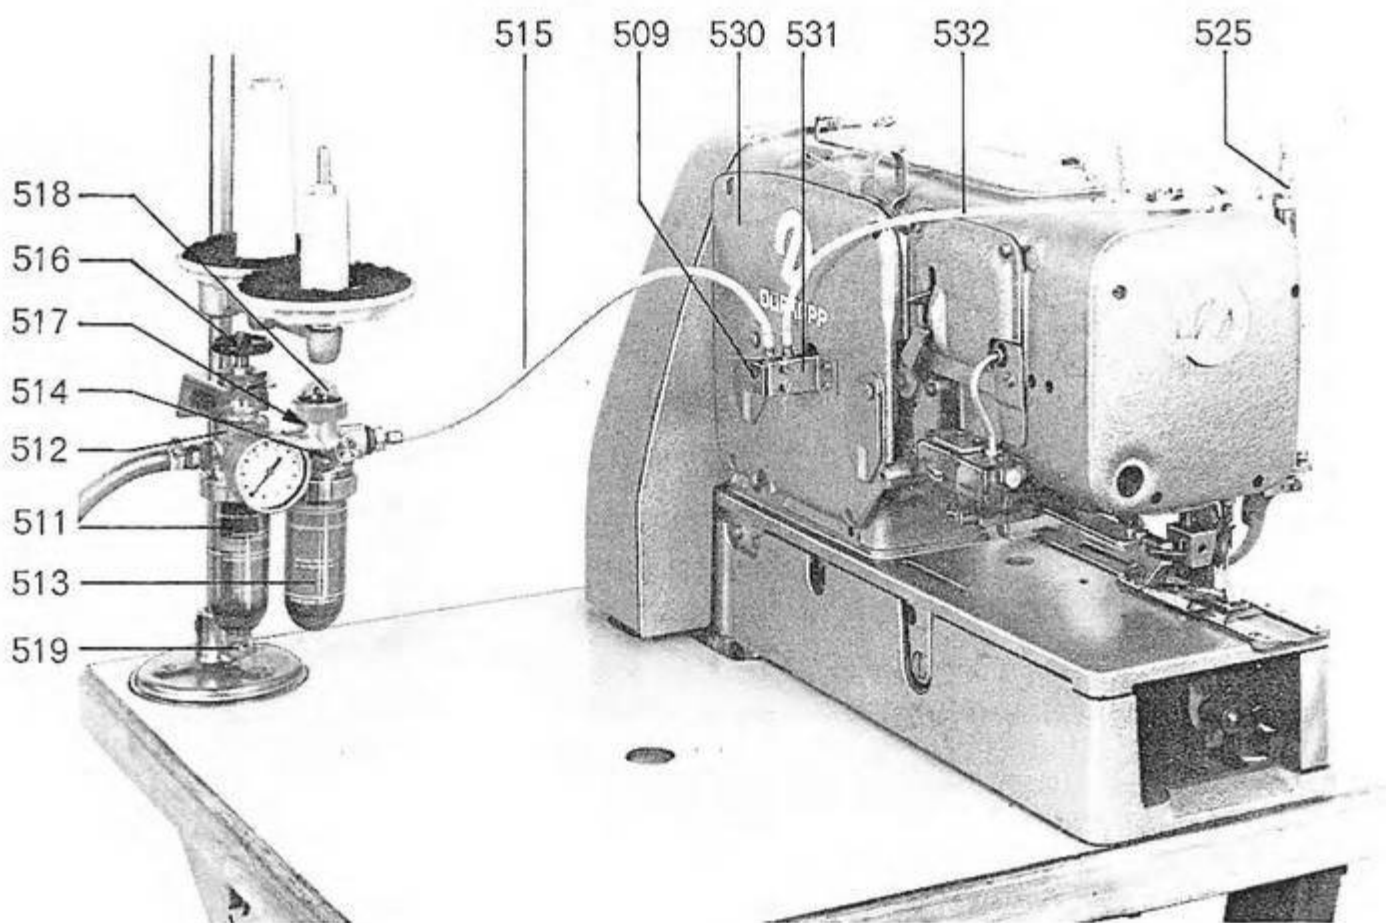
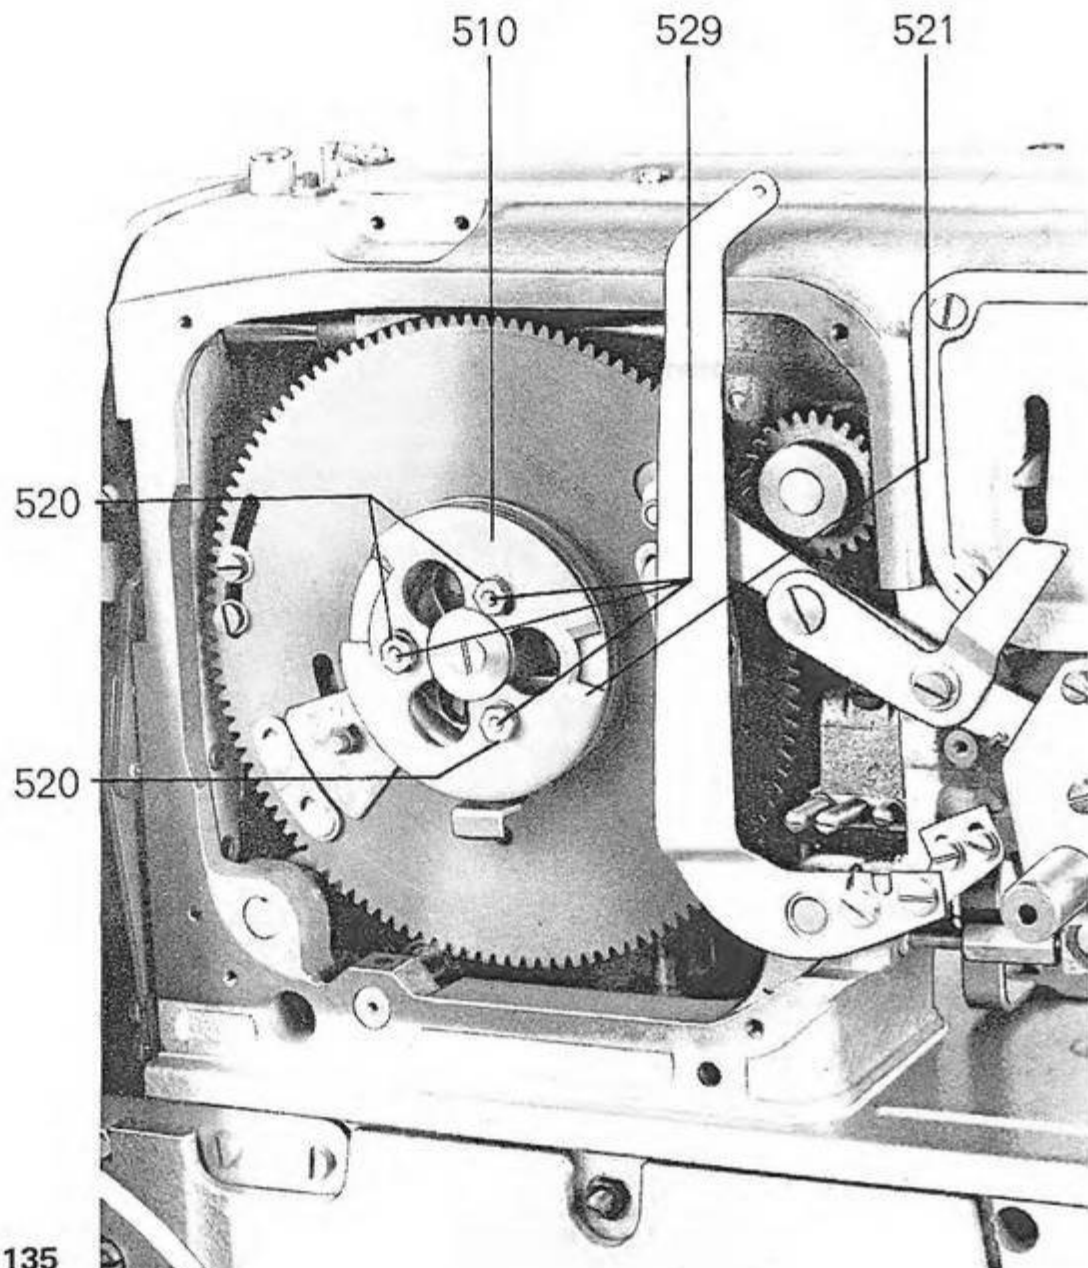

Fig. 134
Fig. 135
The fabric holder is operated pneumatically by means of the roller valve 509 (fig. 134), the latter being controlled by the cam disk 510 (fig. 135). The compressed air must have the pressure of about 6 bar. The air should be free from water and should be slightly saturated with oil.
The conditioning unit consists of the filter 511 (fig. 134) for separating water and dirt, of the pressure regulator 512 for adjusting the service pressure and of the oil atomizer 513 for saturating the compressed air with oil.
The intensity of the oil atomizer can be regulated by turning the screw 517 (fig. 134). Adjust it so that after about 15 to 20 working cycles a drop of oil is lost by the tube under the sight glass 518.
At certain intervals check the oil level in the oiler. It should never drop below the "minimum" mark. If when replenishing the oiler the conditioning unit is under pressure, stop the compressed air supply by turning the wheel 516 counter clockwise before turning out the oil filling screw 514 (fig. 134).
The fabric holder should descend as soon as seaming is started. After loosening the nuts 520 adjust the control cam 510 (fig. 135) so that with the machine being in its final position, the edge 521 of the cam disk 510 touches the roller of the valve 509 (fig. 134). This will ensure that the valve 509 is actuated and the fabric holder is lowered as soon as the sewing process begins.
3. After removing the l/h side cover, the control cam 510 (fig. 135) can be mounted as shown in fig. 135. After turning out the screws use the available threaded bolt 529. The springs on the screws can be used again. Instead of the removed lateral cover mount the cover 530 (fig. 134) with the roller valve 509. Set the valve in the oblong holes of the square 531 so that in the operated condition there is still a small distance between the roller and the valve, i.e. the cam 510 (fig. 135) should not press against the valve.
4. Fasten the conditioning unit to the thread unwinder according to fig. 134. Pass the hose 515 from the conditioning unit to the roller valve 509 and the hose 532 from the roller valve 509 to the throttle valve 525.